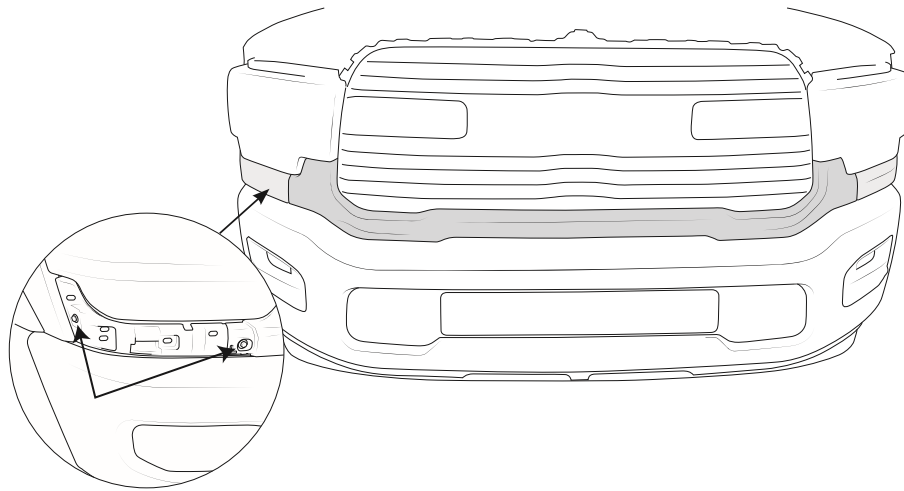

Figure 3
- B. The center section has 7 bolts securing it to the grille (these will need to be loosened from below the vehicle but not fully removed) from underneath the vehicle, and 2 bolts below each headlamp (these need to be fully removed (fig. 3)).